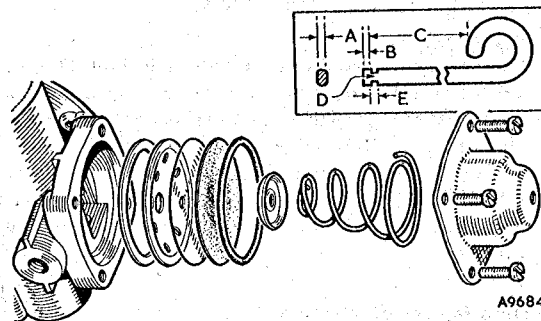

Fig. 10. The delivery flow smoothing device, AUF 400 range pumps
18. Place the sealing washer in the bottom of the delivery flow-smoothing device recess (see Fig. 10), follow this with the perforated diaphragm plate, dome side downwards, then the plastic barrier, followed by the rubber diaphragm. Insert the 'O' section sealing ring into the recess and ensure that it seats evenly. Place the diaphragm spring, large ends towards the vented cover, into the cover, place the spring end-cap on the small end of the spring, pass the assembly tool (see Inset) through the cover, spring, and end cap and turn it through 90° so